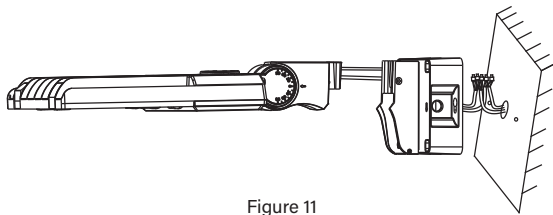

Figure 11
5. Connect the fixture leads to supply wires using UL listed wire connectors and according to local, state, and federal codes. Push all wires into the wall mount kit. (Figure 11)